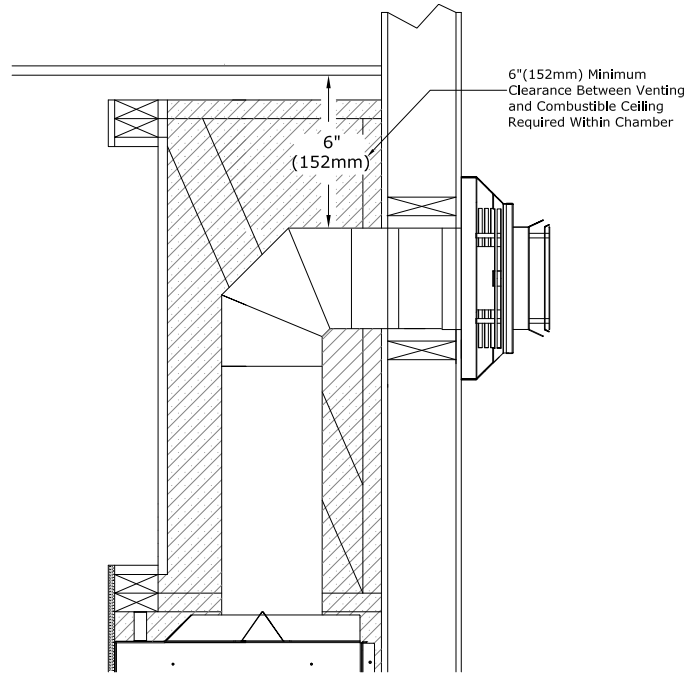
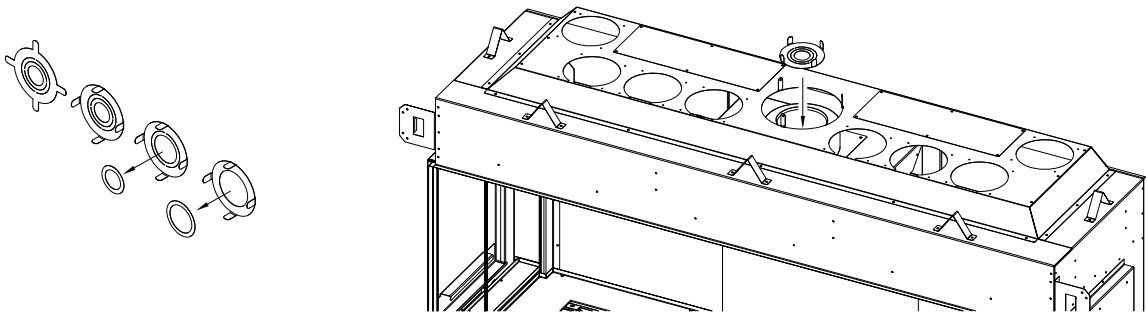

Figure 6.3 - Horizontal Vent Pipe Clearance Inside the Fireplace Chamber
Figure 6.4 - Vent Restrictor Plate Installation
- Any horizontal pipe within the fireplace chamber must have a minimum clearance of 6" (152mm) from the top of the vent pipe to the chamber top. See Figure 6.3.
- The restrictor plate is shipped with all inner rings intact, and when installed, provides the most vent restriction. There are (2) inner rings that can be knocked out. As you knock out and remove an inner ring you have less vent restriction whereas removing both inner rings you will have the least amount of vent restriction.
- Follow Figure 6.4 for restrictor plate installation before attaching venting or through the firebox ceiling if venting is already attached. For vent restriction plate recommendations and adjustments, see section 10.2.3, Vent Restriction (after installation).
Figure 6.3 shows the minimum clearance the top of the vent pipe must maintain through the entire fireplace chamber. Figure 6.4 shows how to install the vent restrictor before vent pipe installation. Refer to Section 6.4.